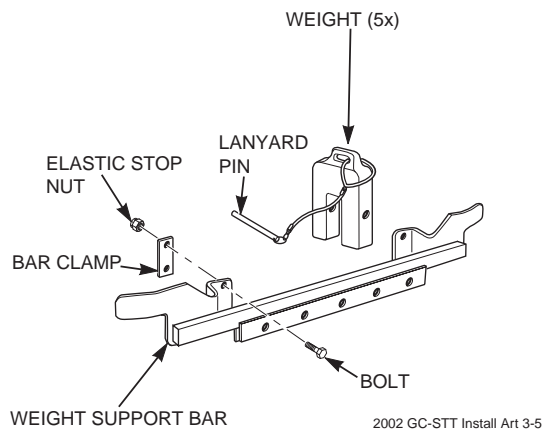

FIGURE 3-6
18. Install the weight support bar to the front of the machine by resting it directly on top of the caster support arms and sliding it tight against the frame of the machine. Secure the weight bar to the machine using (2) bar clamps, (4) 3/8-16 x 1-1/2" bolts and (4) 3/8-16 elastic stop nuts. See Figure 3-6.
19. Install the weight assemblies to the weight support bar and secure them to the bar using the 1/2"x 6-1/4" pin and lanyard. See Figure 3-6